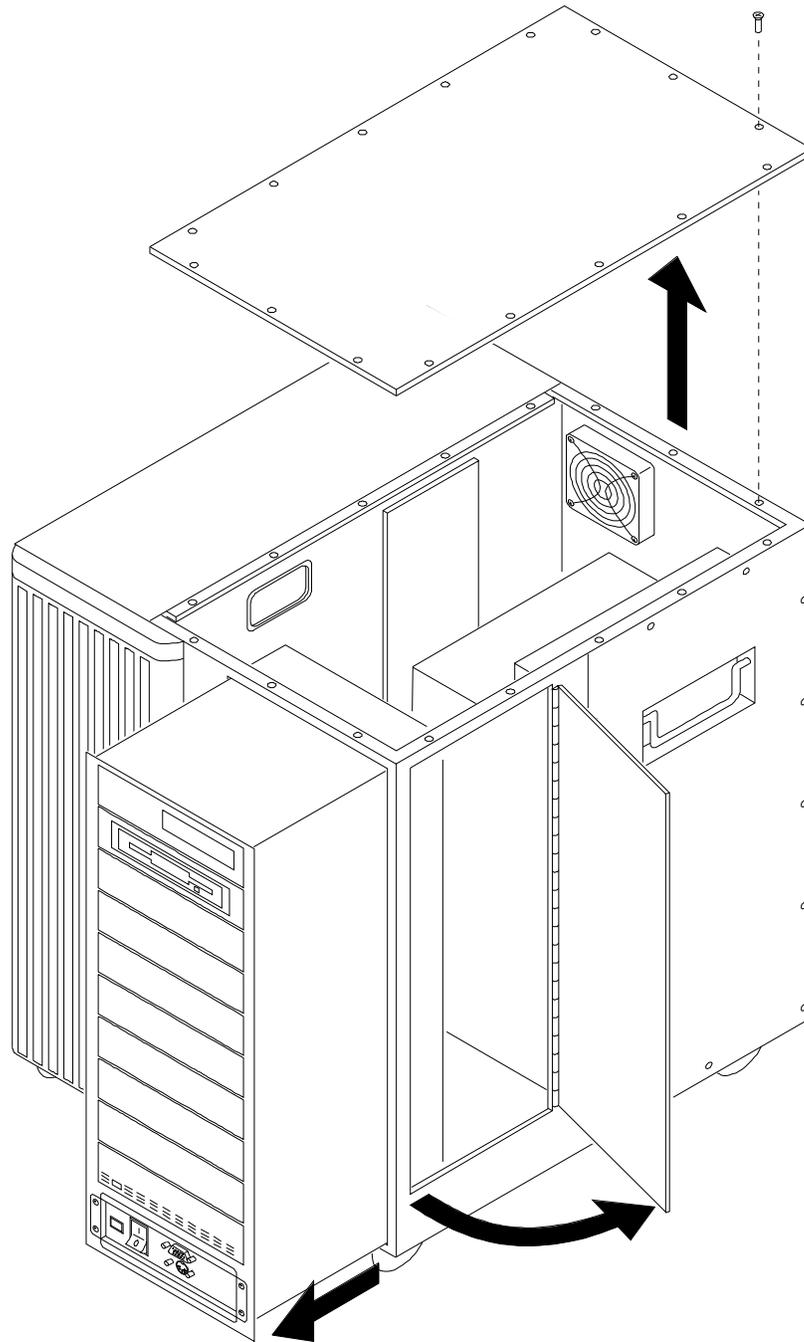

Figure 7-6. Peripheral Bay Fan Location
The peripheral bay fan is located in the rear of the MAP/100 behind the power supply (Figure 7-6).
5. Remove the top access panel (Figure 7-6).